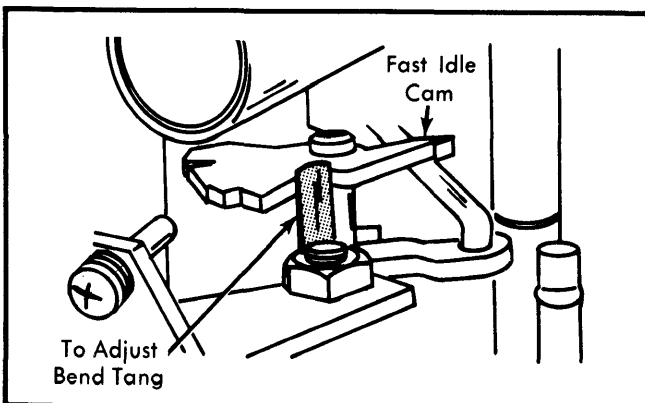

Fig. 6 Unloader Tang-to-Fast Idle Cam Clearance
- 2) To adjust, bend choke unloader tang that contacts fast idle cam. Bend tang toward cam to increase clearance and away from cam to decrease clearance. See Fig. 6.